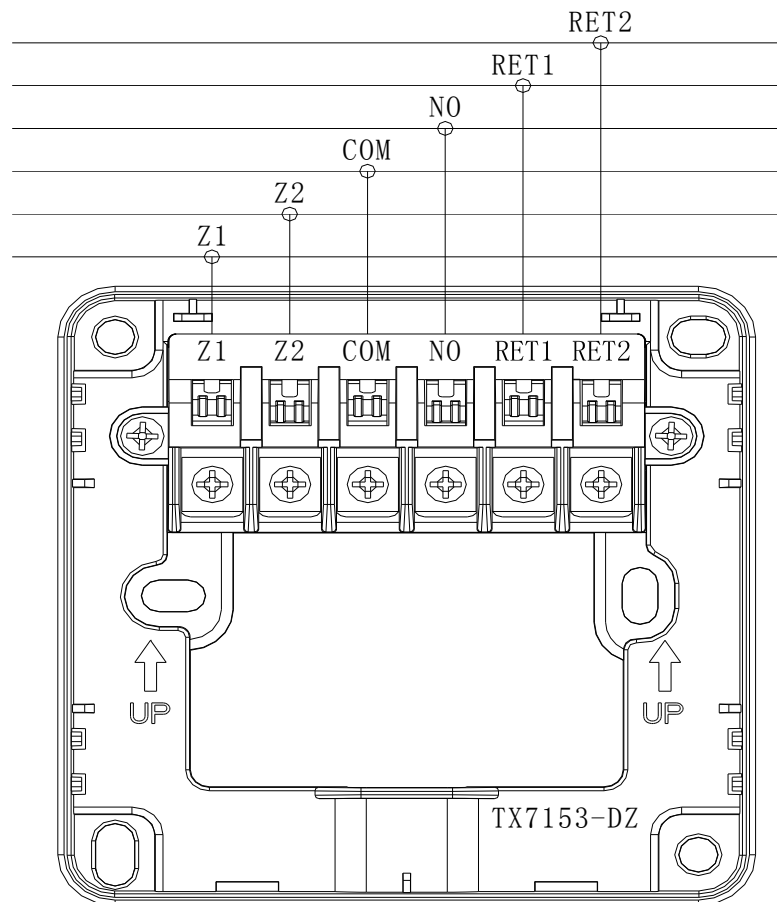

Figure 2
3. Connect the wire in terminal as shown in Figure 2. Verify the device number using handheld programmer then stick on the label before attaching the start button. The sticker labels are available on the control panel.